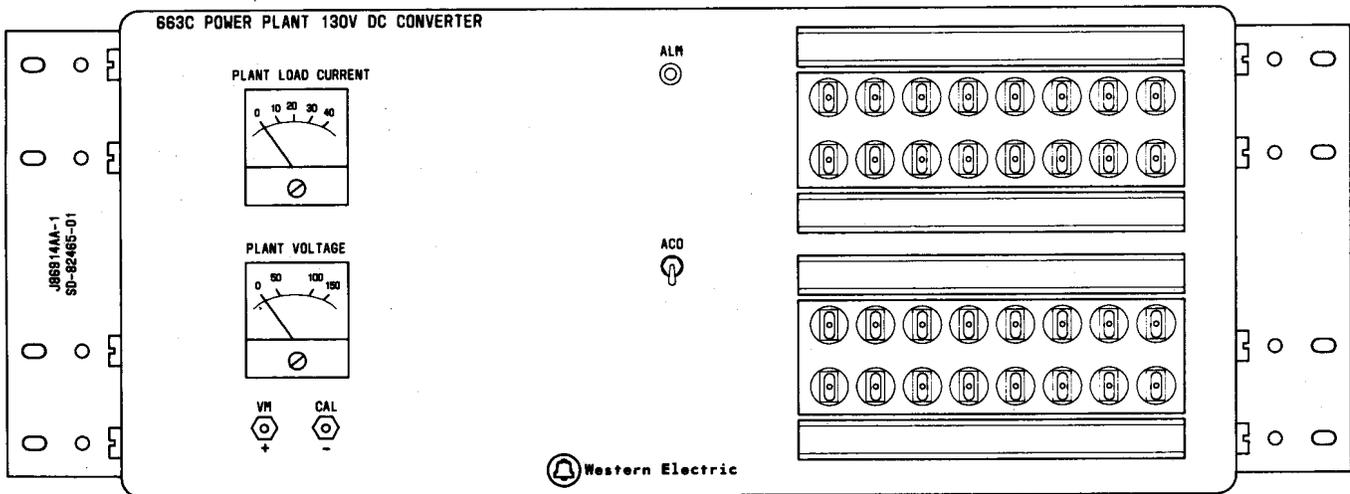

Fig. 2—663C Power Plant Panel
Note: If the plant voltage is out of limits, verify the converter output voltage using a KS-20538 volt-ohm-milliammeter, or equivalent, at the VM CAL test jack (Fig. 2).
- (1) Insert and turn on at least one converter per paragraph 3.02.
- (2) Connect an external voltmeter such as the ♦KS-20538♦ volt-ohm-milliammeter set to the 300 volts dc range to the VM CAL (+) and (-) test jacks (Fig. 2).
- (3) Adjust the PLANT VOLTAGE meter to agree with the indication on the ♦KS-20538♦ volt-ohm-milliammeter.
- (4) Disconnect the meter leads from the VM CAL test jacks.